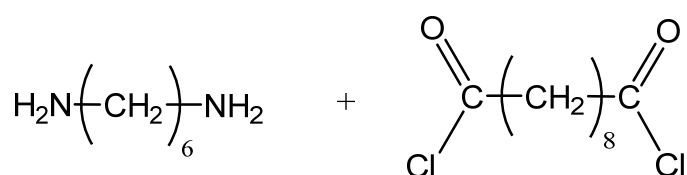

Figure 4: The monomers that will be polymerized upon chemical reaction.
- (4). (a). Figure 4 shows the monomers that will be polymerized upon chemical reaction. Identify the type of polymerization and predict the polymer produced.